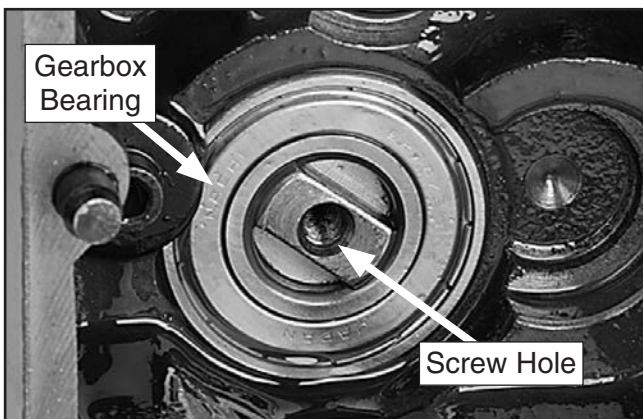

Figure 10. Location of screw hole in cutterhead removal.
25. Insert spare M6-1 screw or bolt into hole at gearbox end of cutterhead shown in **Figure 10**.
3. Install cutterhead in gearbox by fitting it into place, and seat it by tapping on pulley end with wooden or rubber mallet. Ensure cutterhead end is flush with inside face of gearbox bearing, as previously shown in **Figure 10** on **Page 4**.